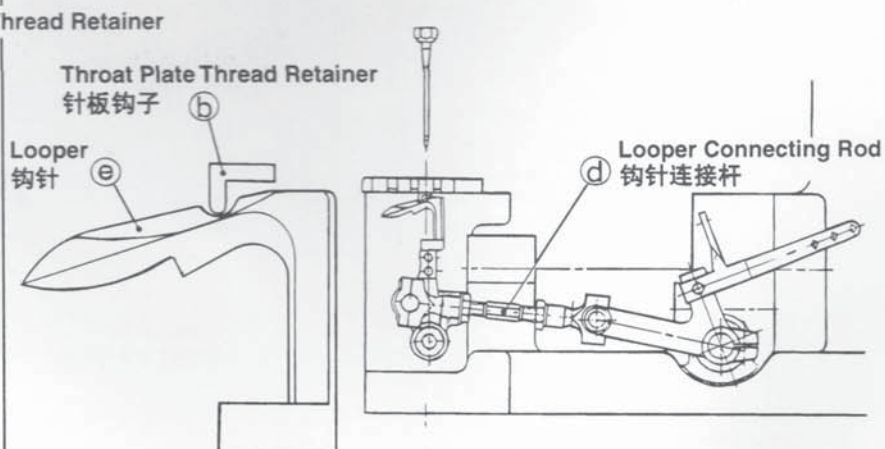

Fig. 17
- c) Adjustment between Looper and Throat Plate Thread Retainer (Fig.17)
- c) 钩针和针板钩调整(图17)